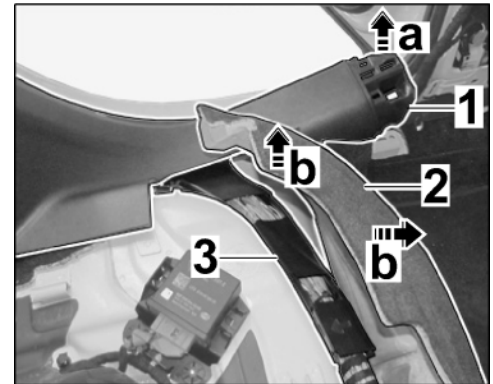

Figure 4
1.8 Unclip rear (inner) door sill trim at the left in the front area from the body (⇒ *Figure 4 -arrow a-*).
Lift carpet in front of the rear seat (⇒ *Figure 4 -b-*) and expose cable duct (⇒ *Figure 4*).